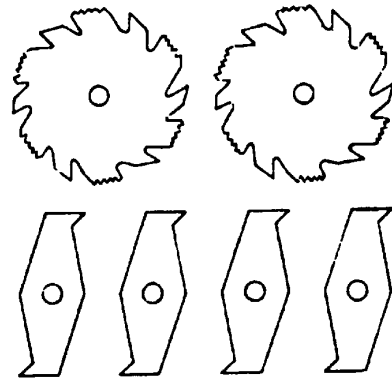
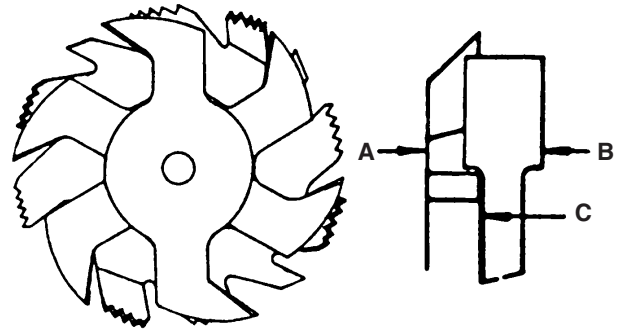

FIGURE 28
FIGURE 29
Dadoing is cutting a rabbet or a wide groove into the work. Most dado head sets are made up of two outside blades and four or five inside cutters, as shown in Fig. 28. Various combination of saws and cutters are used to cut grooves from 1/8" to 13/16" for use in shelving, making joints, tenoning, grooving, ect. The cutters are heavily swaged and must be arranged so that this heavy portion falls in the gullet of the outside blades, as shown in Fig. 29. The saw and cutter overlap is shown in Fig.29 (A) being the outside blade, (B) and inside cutter, and (C) a paper washer which can be used as needed to control the exact width of groove. A 1/4" groove is cut by using the two outside blades. The teeth of the blades should be positioned so that the raker on one saw is beside the cutting teeth on the other saw.